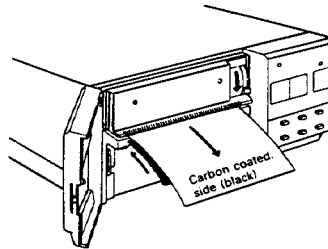

Fig. 2-11
7. Introduce the leading edge of the cleaning sheet in the feed port. (Fig. 2-11)